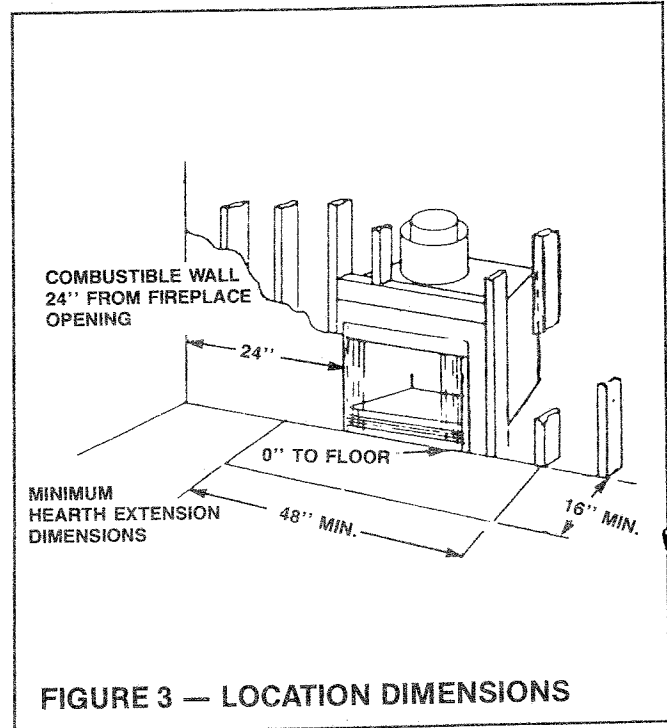
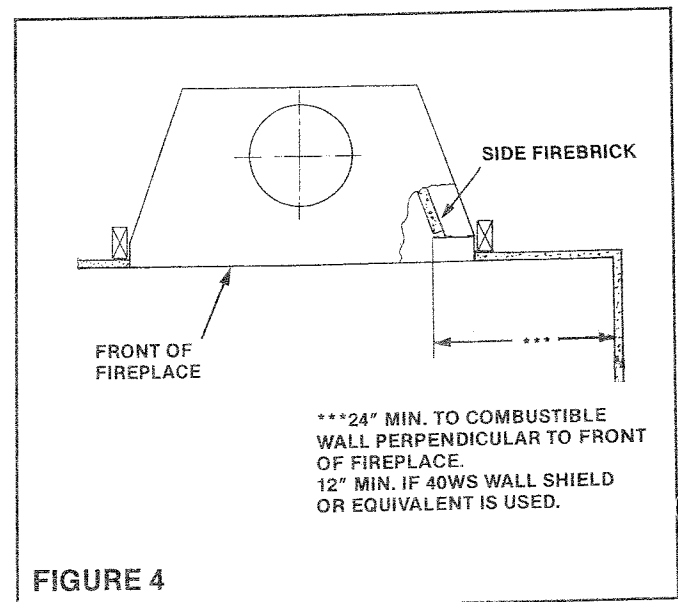

FIGURE 3 — LOCATION DIMENSIONS
FIGURE 4
- A fireplace must not be installed closer than 24 inches to any unprotected combustible wall perpendicular to the fireplace opening (Figure 3). When a MARCO 40WS insulated wall shield (or equivalent protection) is used, clearance may be reduced to 12 inches (Figure 4).